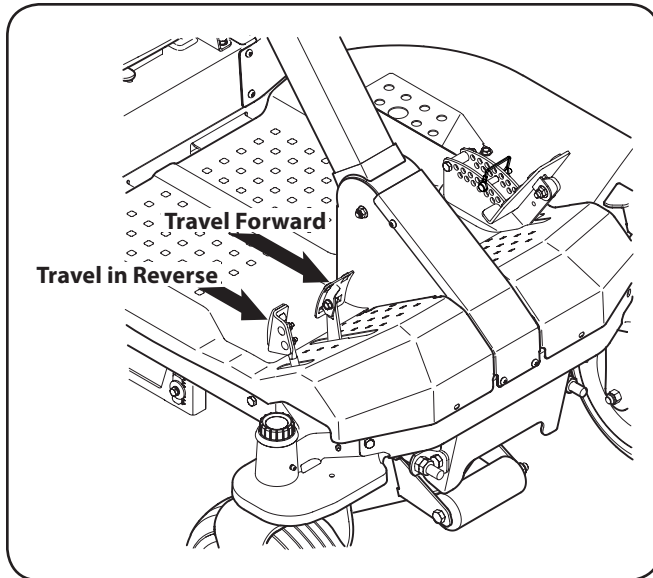

Figure 5-2
2. To travel FORWARD, slowly press the drive pedal forward until the desired speed is achieved. See Fig. 5-2.
4. To travel in REVERSE, check that the area behind is clear then slowly reverse pedal with the ball of your foot (NOT your heel) until the desired speed is achieved. See Fig. 5-2.